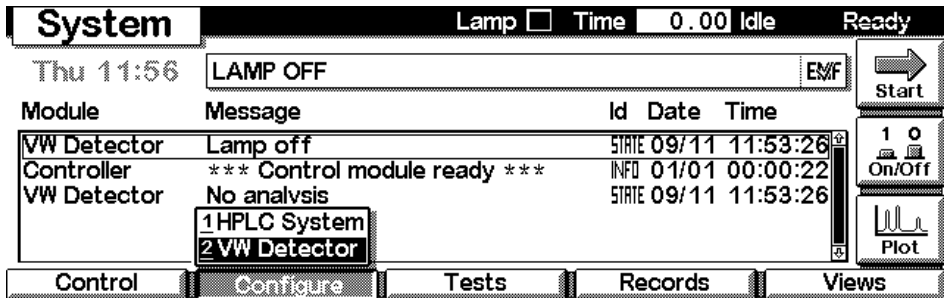

Figure 25 Select module
- 2 Press F2 “Configure”, select the module where the LAN Interface is installed and press the “Enter” key (Figure 25).